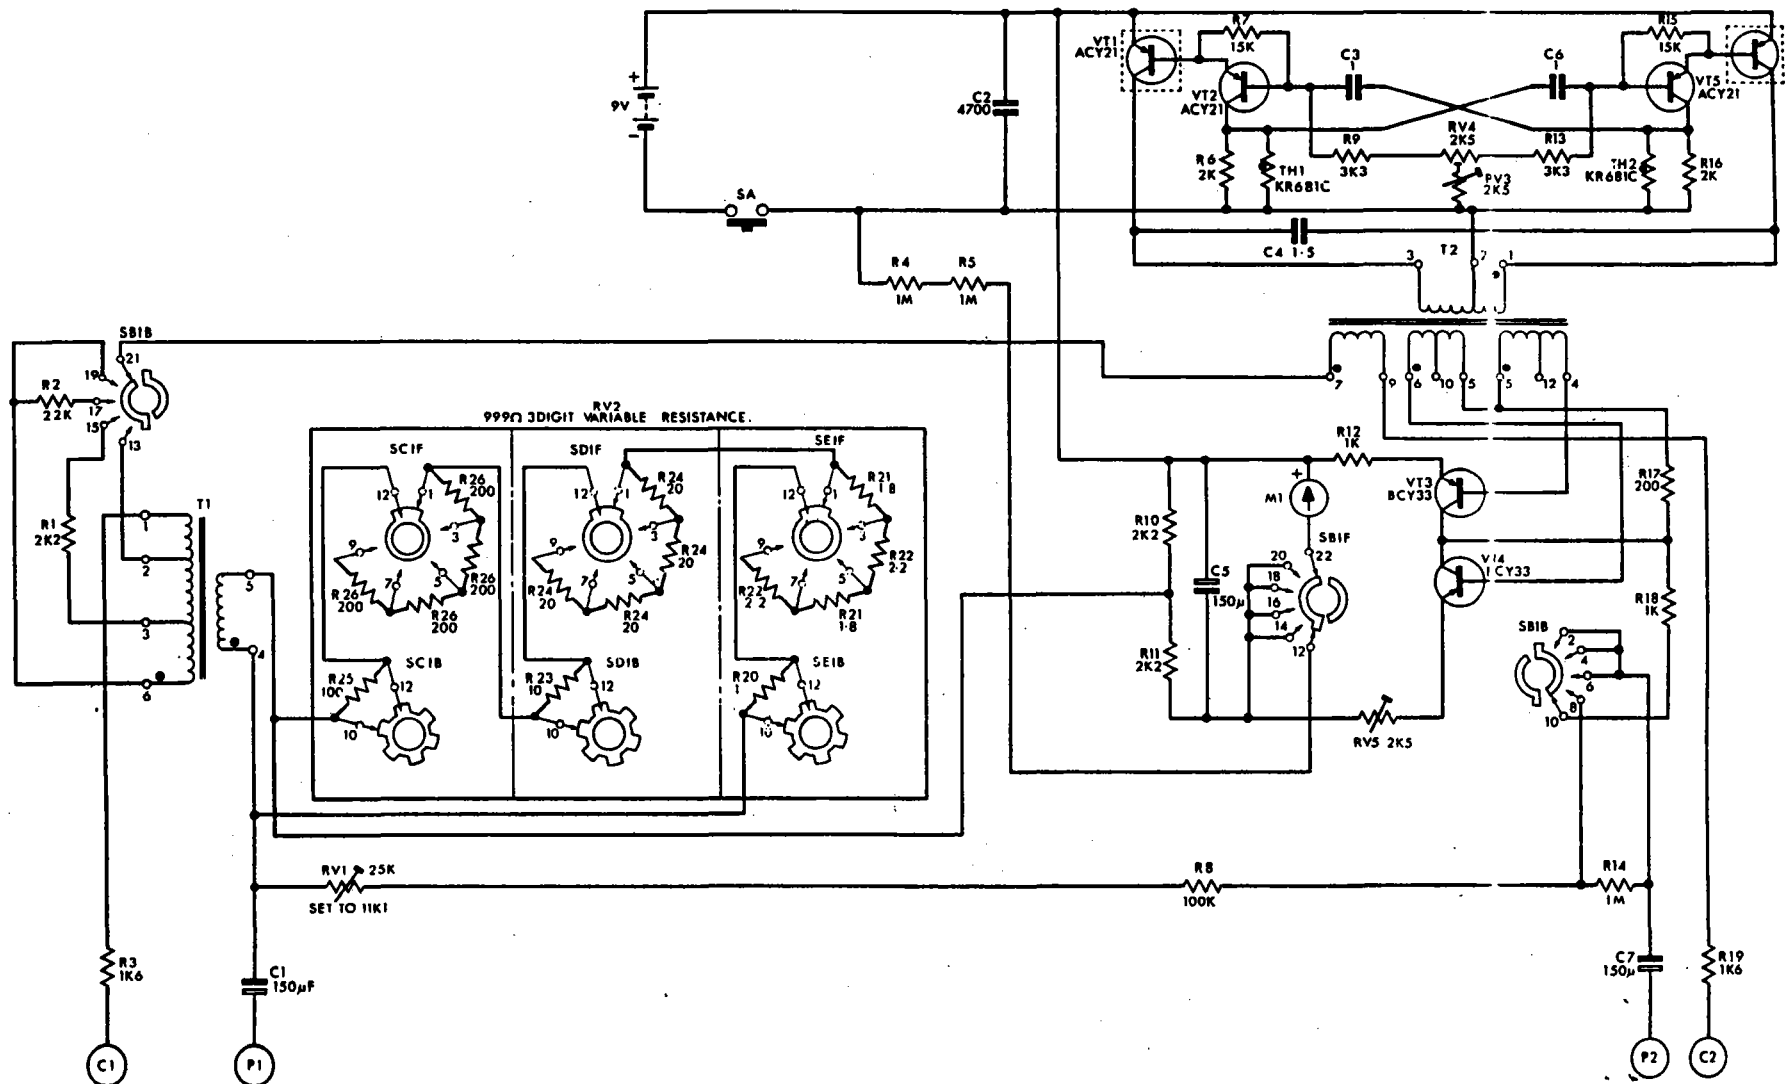

Figure 4-2. Schematic Diagram of Battery-Operated Earth Tester.
operated alternating current inverter, a voltage rectifier, and a resistance network. (Refer to Figure 4-2 for a schematic diagram of the battery-operated earth tester.)
4. **RESISTANCE NETWORK.** - Figure 4-2 shows the schematic diagram with the resistance network.
b. **BATTERY-OPERATED EARTH TESTER.** (Refer to Figure 4-2.) Same as hand-crank earth tester except the current source is a battery-driven inverter with a solid state rectifier supplying current to the meter.